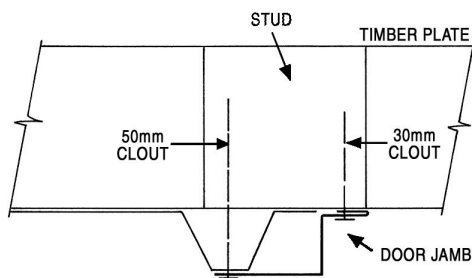

fig. 1
Step 1: Door Jambs: Position left hand Door Jamb Flashing at correct measurement from left (**cladding detail**) and nail to Top Plate using a 30mm clout. Do not fit 50mm nails at this stage. Pre-drill holes to make nailing easier (**fig. 1**).